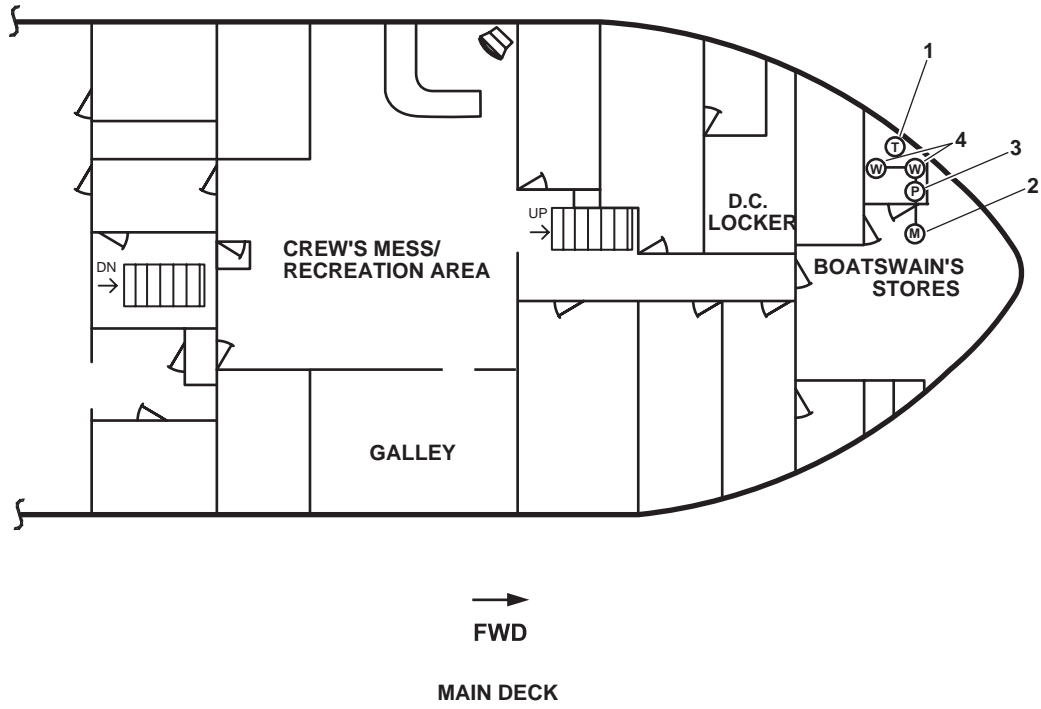

Figure 20. Arms Locker Drenching Systems
System activation occurs when the thermal heat detector (figure 20, item 1) senses a temperature above 105 °F (40.5 °C). The thermal heat detector sends an alarm signal to the pilothouse indicating high temperature conditions in the arms locker. The crew shall then investigate the situation and, if necessary, the fire main system would be charged. Once it is determined that the alarm condition exists and the fire main system is charged, the manual activation valve (figure 20, item 2) is OPENED either locally or remotely. As raw water enters the piping system in the arms locker, a pressure switch (figure 20, item 3) activates an alarm in the pilothouse to indicate that the arms locker drenching system has been activated. The raw water from the fire main flows into the arms locker and out of two sprinkler heads (figure 20, item 4). Once activated, the system will continue the flow of raw water into the arms locker until the manual activation valve is closed or the fire main system is secured.